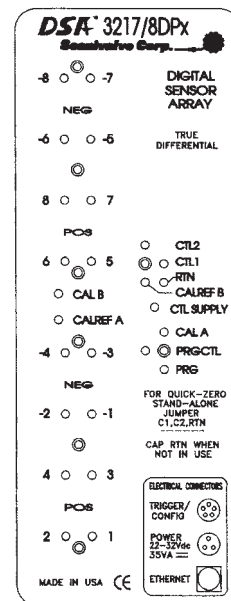

FIGURE 2.3 - DSA3217/8DPx DIFFERENTIAL TOP PANEL
For differential pressure measurement applications, the DSA3217 can be configured with eight (8) differential pressure transducers. They are arranged into two (2) groups of four (4) transducers. Like the DSA3217/16Px, each group of transducers has a dedicated calibration valve that allows the input pressures to be blocked off during any calibration, including a zero offset calibration (CALZ). Figure 2.3 depicts the top panel of a DSA3217/8DPx module.